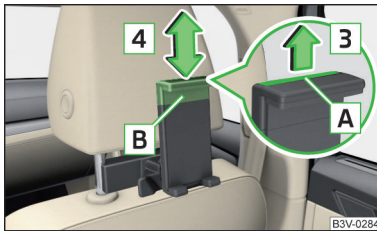

Fig. 115
► To **adjust the holder size**, pull out the securing tab  in the direction of arrow  and push the part  in the direction of arrow  to the desired position » Fig. 115.